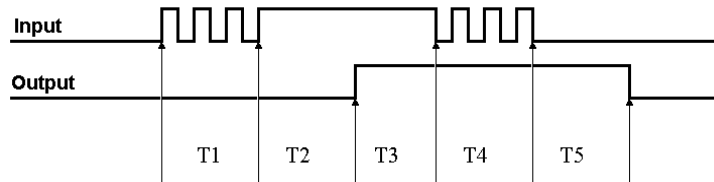

Figure 13. Debounce module – trigger after stable mode
- T1 – In Figure 13, the input signal goes high at the beginning of time period T1, but never stays high for a period of time equal to the debounce time setting (equal to T2 for this example.)